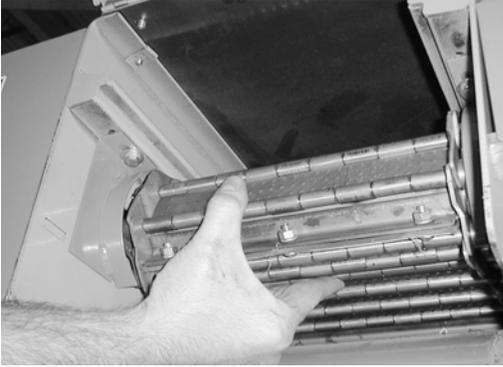

Figure 11. Checking Metal Belt Tension
- Check belt tension with your hand as shown in Figure 11. Belt slack at this position should be approximately 1/2 to 3/4 inch (13 to 19 mm).